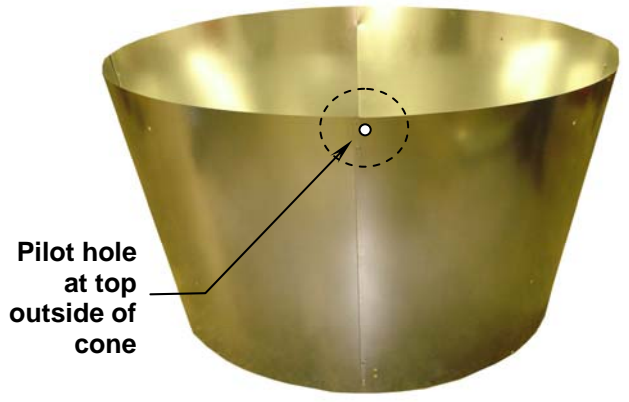

Figure 5: Assembled Cone
12. To complete the last flange connection, roll the cone panels so the small end is on the floor. See Figure 5. **IMPORTANT! The four pilot holes should be at the top end on the outside of the cone.**